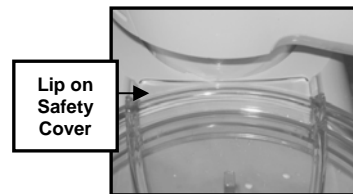

Fig. 5
5. When fitted correctly, the lip on the processor lid will fit into the notch on the food processor body. (Fig. 5)